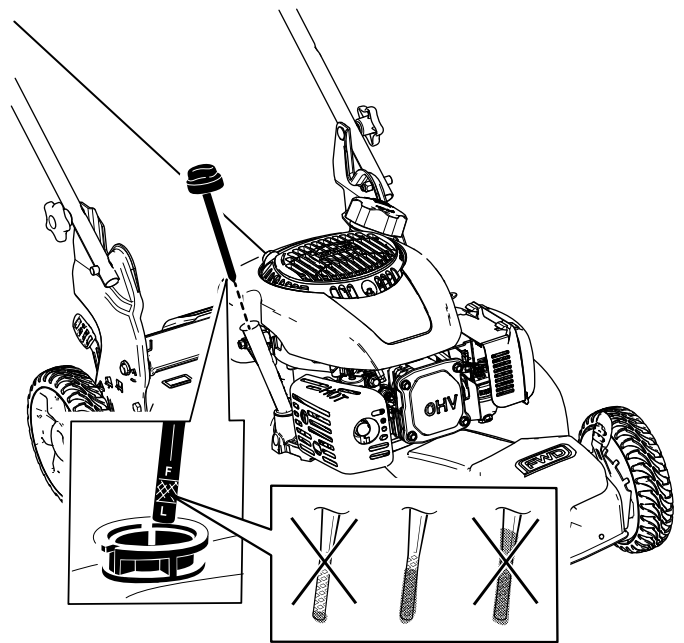

Figure 14
5. Read the oil level on the dipstick (Figure 14).
2. Remove the dipstick by rotating the cap counterclockwise and pulling it out (Figure 14).